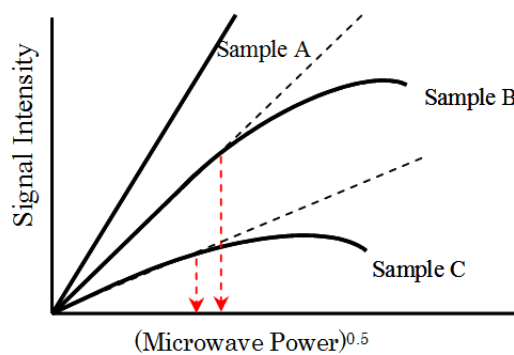

Fig. 2 Microwave Power Affect on Signal Intensity
6. Plot the signal intensity against the square root of microwave power as shown in Fig. 2.
As shown in Fig. 2, the signal intensity increases in proportion to the square-root of power in ideal conditions. However, the linear response stops at a certain power, and the proportionality fails which is known as “power-saturation”. When measuring unknown samples, power-saturation must be avoided.